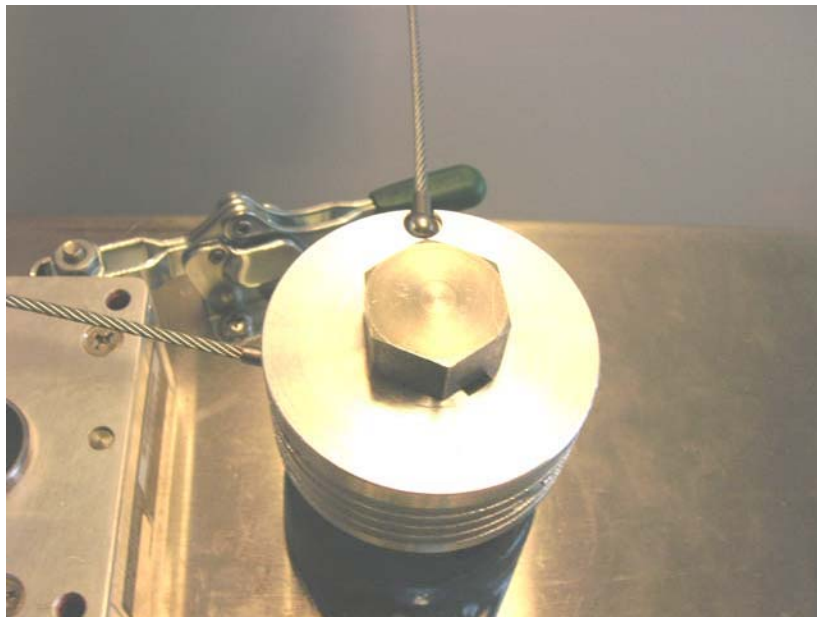

Figure 3-13. Cable inserted in test fixture capstan top slot
- 4) Insert the swaged ball end of the second cable (233-20003-00) into the top end slot of the fixture capstan. See Figure 3-13.